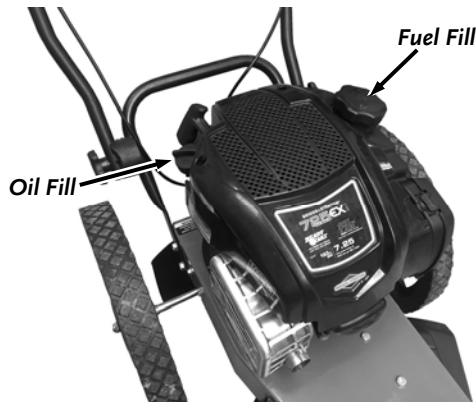

Figure 8
1. Place the machine on a level surface and initially add 1/2 of the SAE 30 High Detergent oil into the Oil Fill (**Figure 8**) and wait one (1) minute for the oil to settle